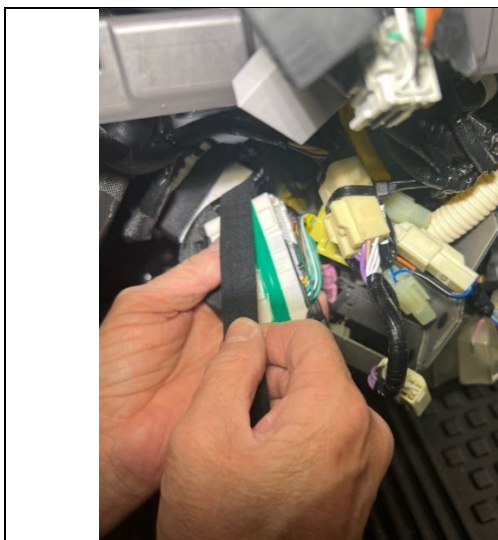

Figure 20
24. Use a strip of Tesa tape to tape the black wiring harness going to H98 to the right-hand side of H98. (See Figures 20 and 21.)